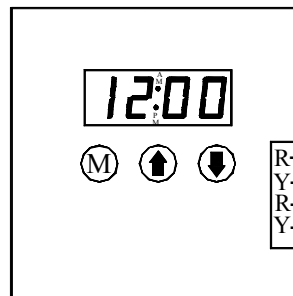

FIGURE 2
3. Disconnect the red and yellow brick core sensor (thermocouple) wires from the processor control board. It is extremely important to note the position of these wires (Figure 2).
NOTE: *The polarity of the brick core sensor (thermocouple) is extremely important! Make sure the red thermocouple wire (negative potential) is in the "R" terminal and the yellow wire (positive potential) is in the "Y" terminal on the lower two terminal block positions of the processor control board (Figure 2). These thermocouple wires **MUST** be positioned correctly to ensure proper operation of the system.*